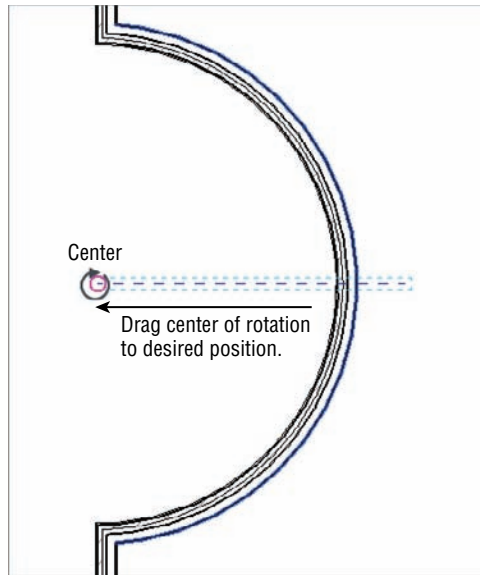

FIGURE 4.9 Click and drag the rotate icon to the endpoint of the reference plane.
3. After you start the Rotate command, look back at the reference plane. Notice the icon that resembles a recycle arrow in the middle of your line. Revit will always calculate the center of an object (or group of objects) for the rotate point (see Figure 4.9).
5. You must move this icon to the left endpoint of the reference plane. To do so, click and drag the rotate icon to the endpoint of the reference plane, as shown earlier in Figure 4.9.